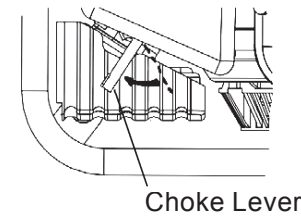
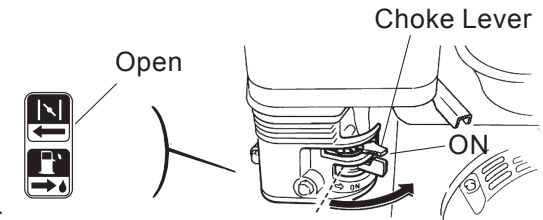

Fig.5-6a
Fig.5-6b
6). Move the choke lever gradually to the ON position after the engine warms up. (For LGP10-A / LGP15-A fig.5-6a; for LGP20-A / LGP30-A fig.5-6b).